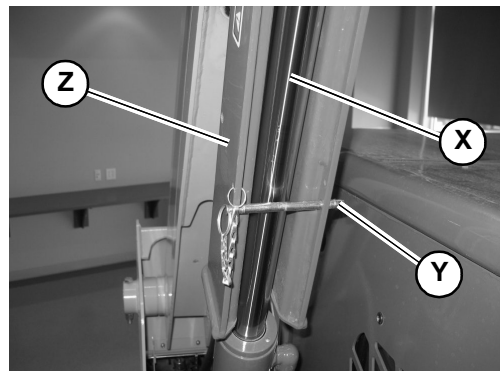

Fig. 60 – Lift Arm Support Retaining Pin
- a. Remove retaining pin (Y, Fig. 60) securing lift arm support (Z) in the support position.